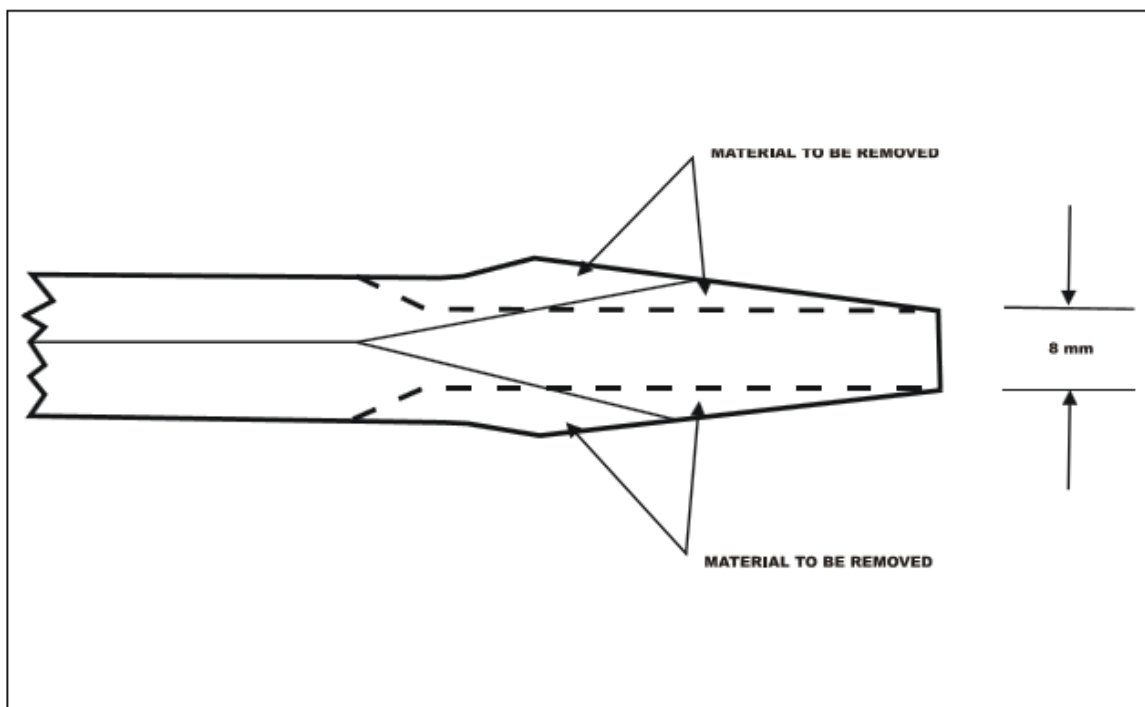

FIG. 6.22
- 1) Turn the valve handle (item 11) to the fully **ON** position.
- 2) Remove the blue middle body (item 2) and upper body (item 1) assembly as one unit by holding the black Lower body (item 3) with either a 27mm or 1 1/16" wrench and unscrewing the Middle assembly with a 12mm crowfoot or wrench.
- 4) Remove the hex socket set screw in the side of the Lower cam (item 9) (3mm hex key).
- 5) Use an appropriate size flat blade screwdriver (8mm or 5/16" blade width. (A screwdriver may have to be modified to the correct size - refer to FIG. 6.22). Take care not to mar or destroy the threads inside the Upper cam (item 7). Screw the valve stem (item 4) down through and out of the manifold block and Lower body.
- 1) Turn the valve handle (item 11) to the fully ON position.
- 2) Remove the set screw in the side of the Lower cam (item 9) (3mm hex key).
- 3) The threaded valve stem (item 4) has four flats one of which must now be aligned with the set screw hole in the Lower cam.
- 4) Adjust the valve stem 90° to the next flat **IN** (if the valve is **not shutting off**) or **OUT** (if the valve is **not turning on**). Use an appropriate size flat blade screwdriver (8mm or 5/16" blade) (Refer to FIG. 6.22 for screwdriver modifications).
- 6) Use an appropriate size flat blade screwdriver (a screwdriver may have to be modified to the correct size - refer to FIG. 6.22). Take care not to mar or destroy the threads inside the handle. Screw the valve stem down through and out of the manifold block. Be aware that the spring between the handle and manifold block is under tension and when the tension is released becomes very active.